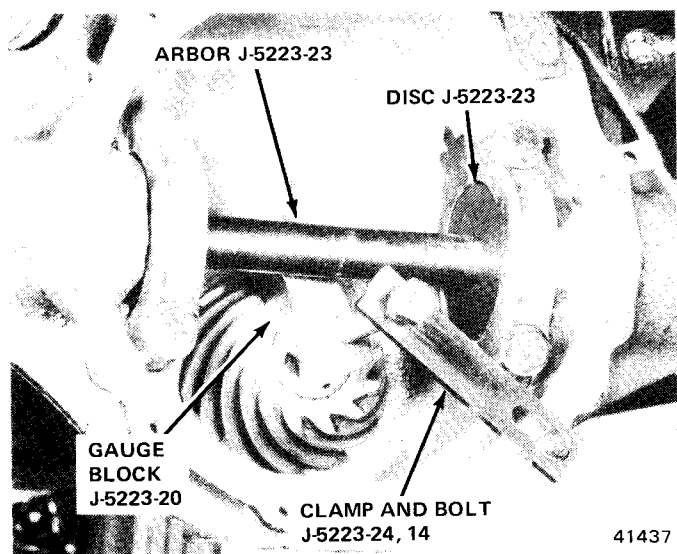

Fig. 10-42 Installing Pinion Depth Gauge Tools
(1) Assemble Arbor Tool J-5223-4 and Discs J-55223-23 and install in differential bearing cup bores in axle housing. Be sure discs are seated in bearing bores.
(2) Install bearing caps in axle housing and over discs (fig. 10-42). Tighten bearing cap bolts securely, but not to specified torque.
(3) Position Gauge Block J-5223-20 on end face of pinion gear with anvil end of gauge block seated on gear and plunger underneath Arbor Tool J-5223-4 (fig. 10-42).